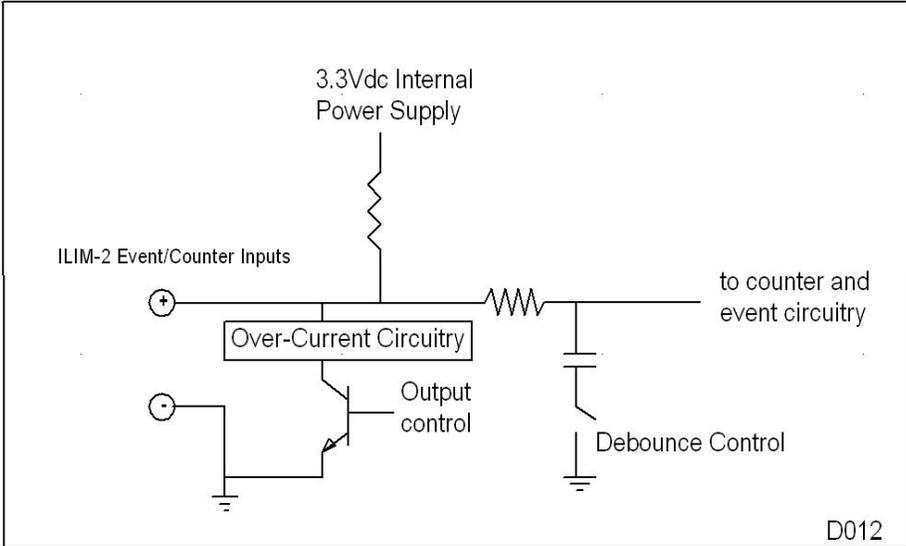

Fig 47; Input / Output Channel simplified schematic
**OPEN COLLECTOR OUTPUTS (FIG 47)**